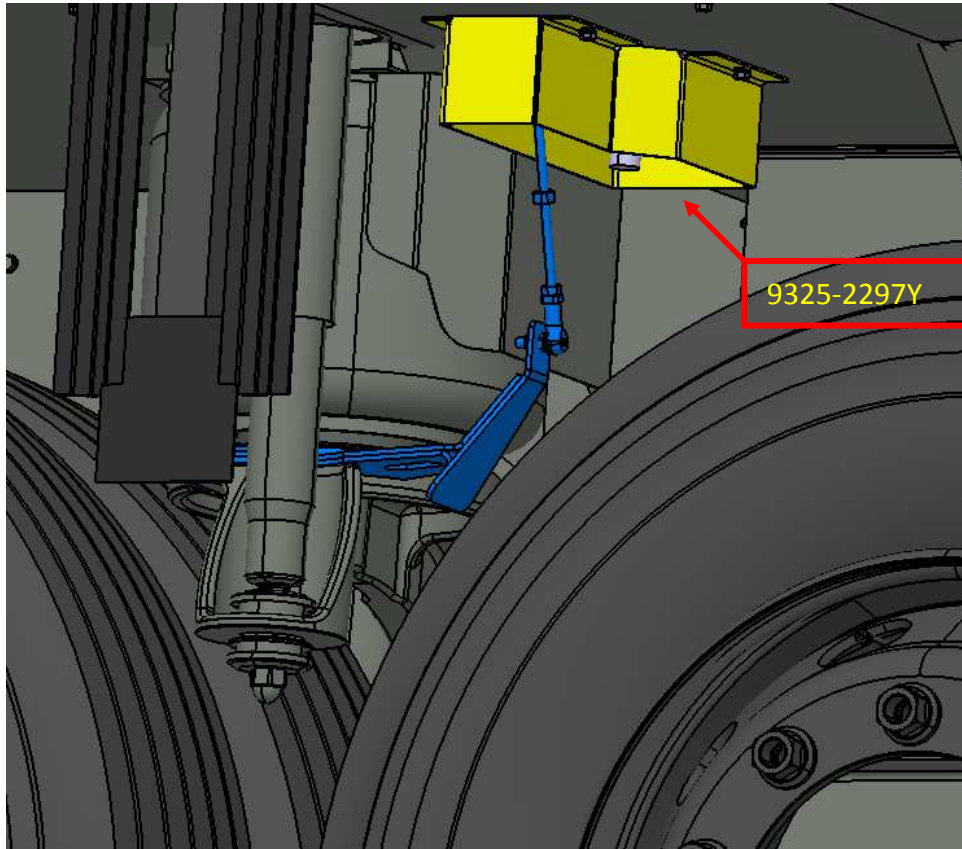

Figure-9
Step 9: Install the panel as shown in Figure-9